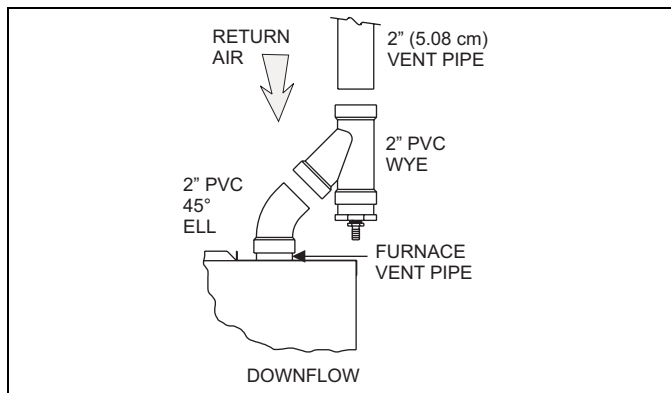

FIGURE 16: Downflow Vent Assembly
1. Place the 2" (5.1 cm) 45° PVC street elbow on the vent connection shown in Figure 16.
2. Place the 2" (5.1 cm) PVC WYE ("Y") assembly on the 2" (5.1 cm) 45° PVC street elbow as shown in Figure 16.
4. Slide the hose through the hole in the top cover, and insert the hose on to the barbed fitting on the bottom of the 2" (5.1 cm) PVC WYE ("Y") assembly as shown in Figure 16.